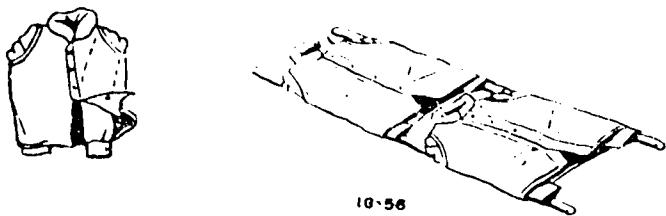

Figure 1-9. Pole and jacket litter.
b. Pole and jacket litter. Illustrated in figure 1-9 is an example of how you can use two or three shirts or field jackets to make a pole and jacket litter. Button up the jackets and turn them inside out so that the lining is outside and the